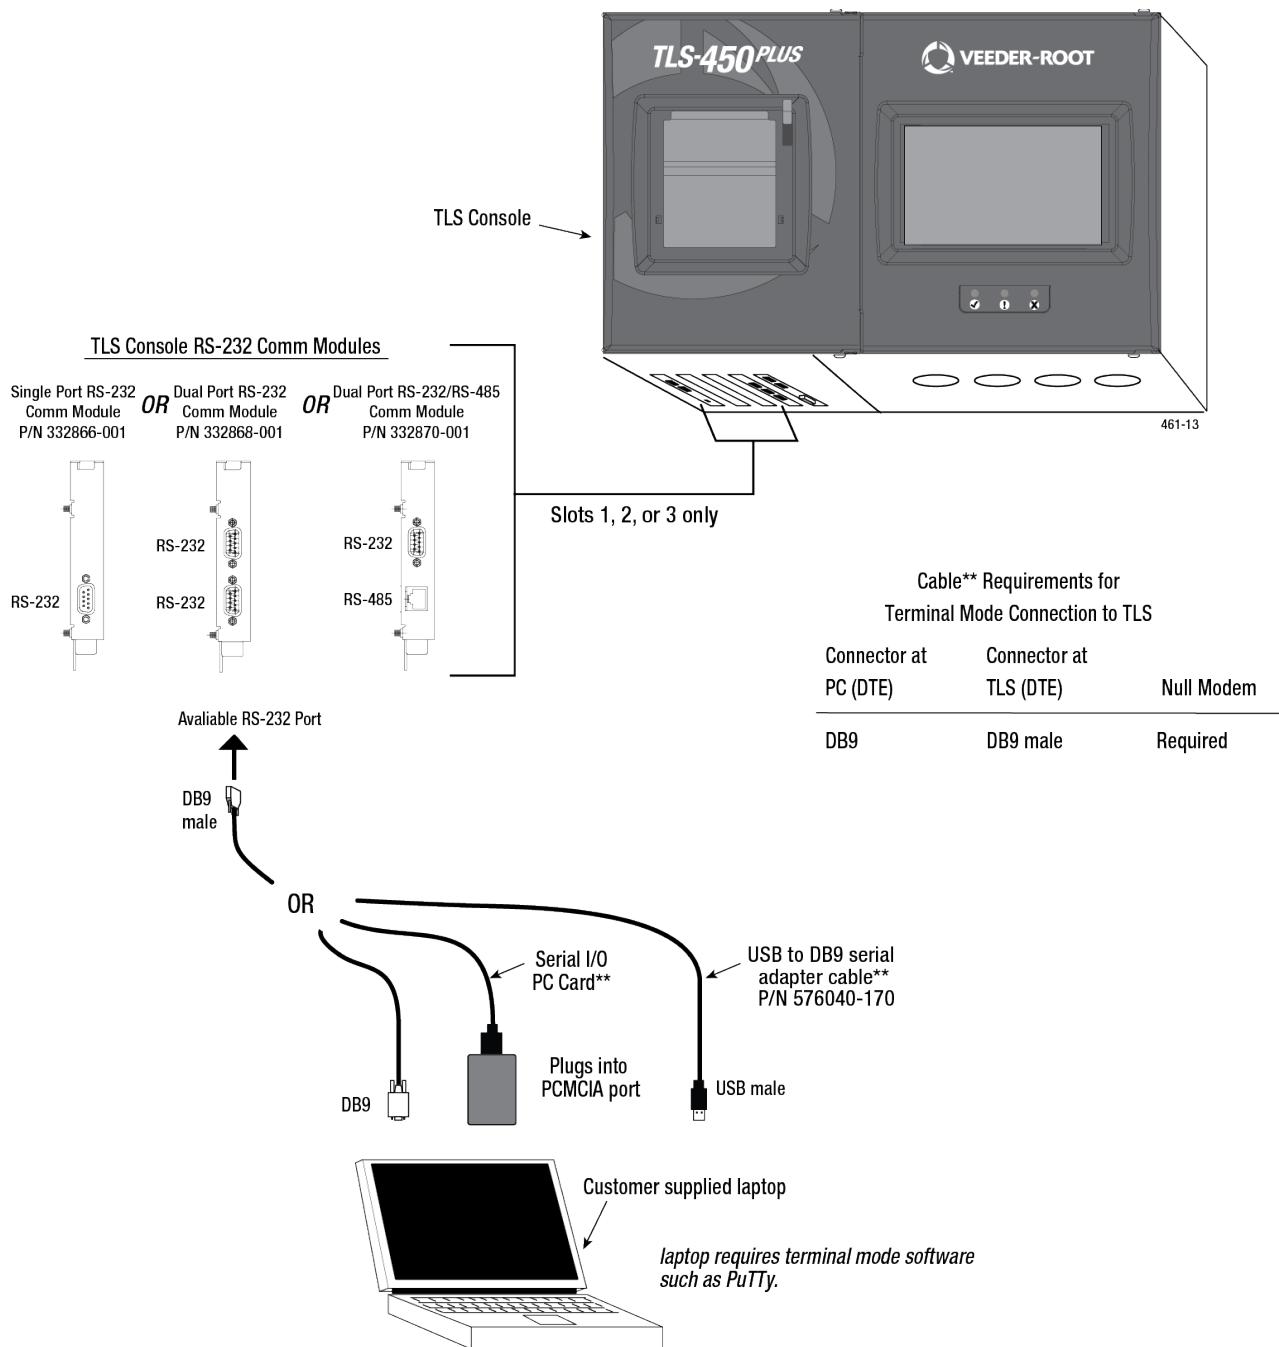

Figure 37. Connecting Laptop to TLS-450PLUS for Serial Communication
1. Connect your laptop to one of the TLS-450PLUS RS-232 Comm port using one of the methods shown in the in Figure 37 below.